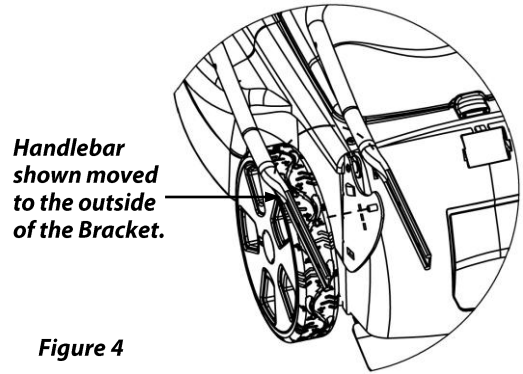

Figure 4
2. Lift and pull the Left Side of the Lower Handlebar over the Left Handlebar Bracket (**Figure 4**), and align the hole in the Handlebar with the Stud as shown. Once you align the hole with the Stud, gently allow the Lower Handlebar to spring back into place, whereby the Stud will protrude through the hole.